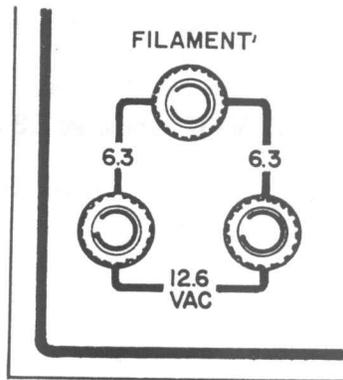

FIGURE 2-3
- Using Figure 2-3 and the space provided, draw a circuit showing four 6.3 VAC lamps, at 750 mA each, connected to the 6.3 VAC output voltage.
- Will the circuit breakers hold for the circuit of Figure 2-3? _____
- If the current rating of each lamp in the circuit of Figure 2-3 were increased by 300 mA, would the circuit breakers hold? _____